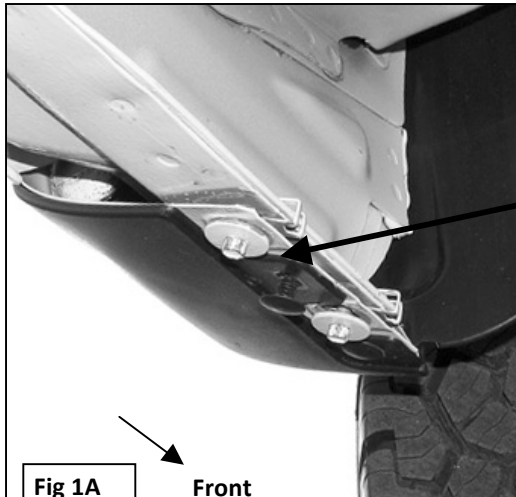

Fig 1A Front
- Starting at the front of the driver side of the vehicle, remove the two small hex bolts and the metal clips holding the bottom of the fender to the body, **(Figure 1A)**. **NOTE:** Use a small flat screwdriver to